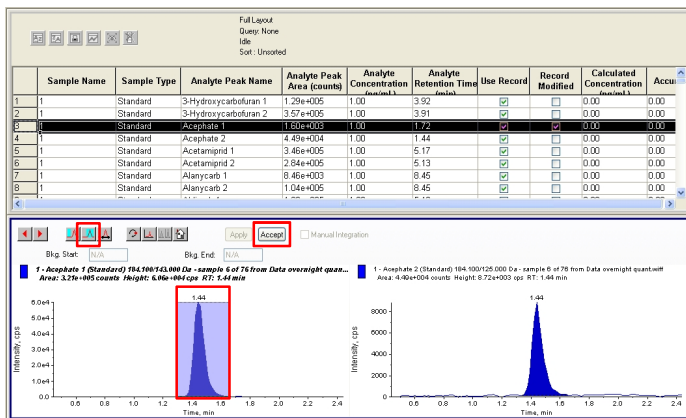

Figure 6. Review all peaks and update retention times if needed
Create a result table using the built quantitation method using the 'Quantitation Wizard'. Review all peaks. It is recommended to review MRM transitions in pairs. Update integration if needed by (1) highlighting the peak, (2) clicking the 'Select Peak' icon, and (3) clicking 'Accept' (Figure 6).